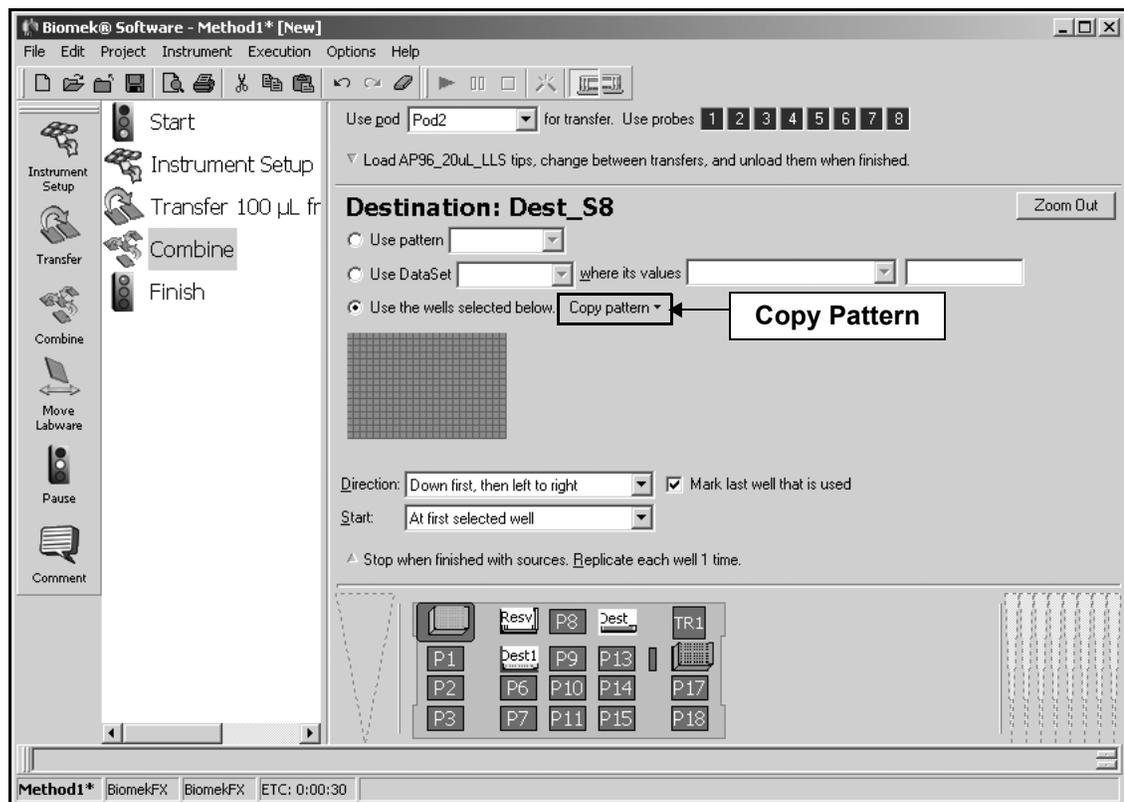

Figure 2-14. Combine step zoomed in on destination labware
2. Double-click on the graphic of the destination labware to zoom in on it. The Combine step configuration displays options for selecting the wells to access on the destination labware as shown in Figure 2-14.